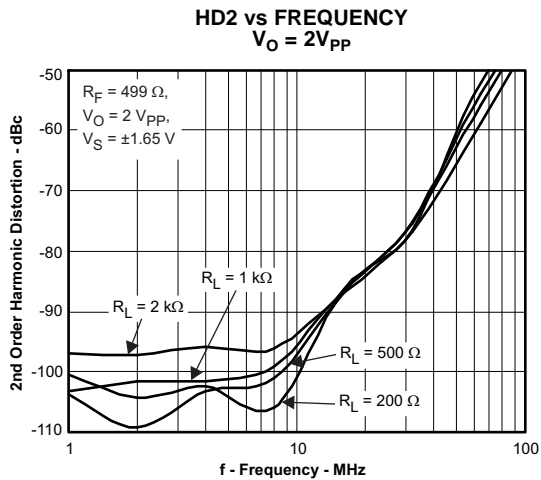

Figure 36.
| Harmonic Distortion (1) | HD2                                  | vs Frequency   | <a href="#">Figure 36</a> |